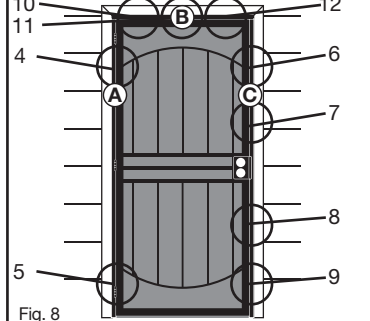

Fig. 8
Fig. 8 - Remove screws on pre-hang brackets and remove brackets. Through the remaining holes in the Z-bar jambs (A & C) and top/head jamb (B), drill a 1/8" hole approximately 1/2" into the doorway trim. Insert mounting screws (K) into holes (4-12) and tighten.